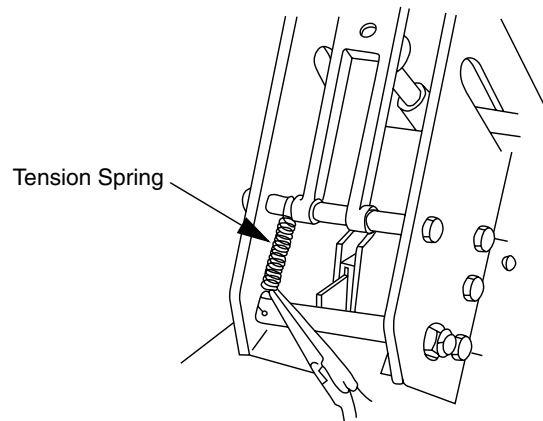

Figure 4. Tension spring replacement.
8. Remove old tension spring and install replacement, Item 2, Figure 4.